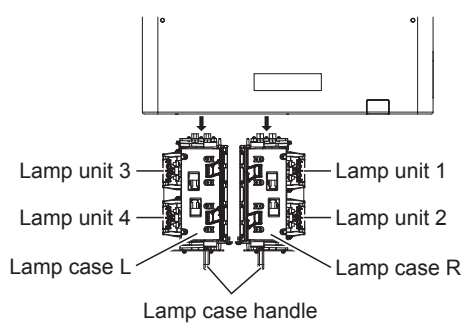

Fig. 3
- ii) Hold the handle of the lamp case on the side where the lamp unit to be replaced has been attached and pull out the lamp case backwards. (Fig. 3)